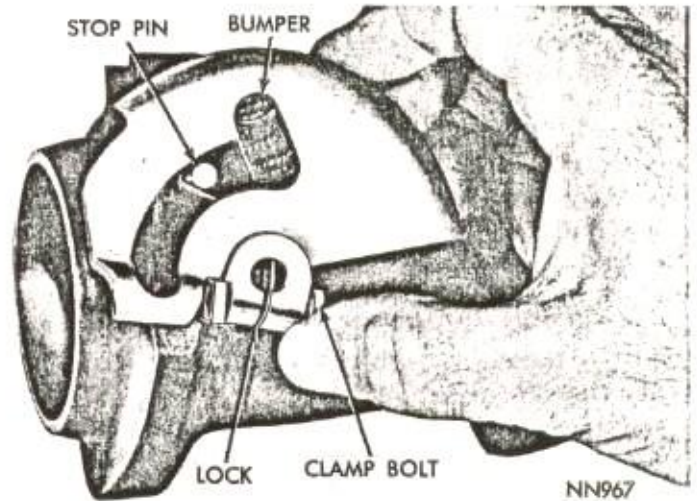

Fig. 6—Installing Counterweight
(3) Wrap outer end of thermostat counterclockwise and engage under stop pin.
(4) Install counterweight on outer end of valve shaft with lock engaged in valve shaft slot and bumper on right hand side of stop pin (Fig. 6).